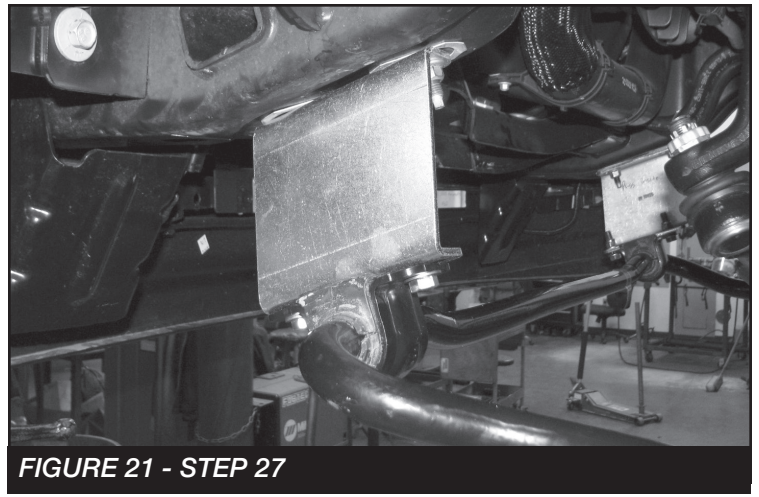

FIGURE 21 - STEP 27
27. Install FT30630 (Driver) & FT30629 (Passenger) Sway bar drop brackets using the factory hardware. Torque to 35 ft-lbs. Reinstall the front sway bar to the end links using the supplied 7/16" hardware torque all hardware to 83 ft-lbs. Reconnect the sway bar to the end links. Torque to 59 ft-lbs **SEE FIGURE 21**